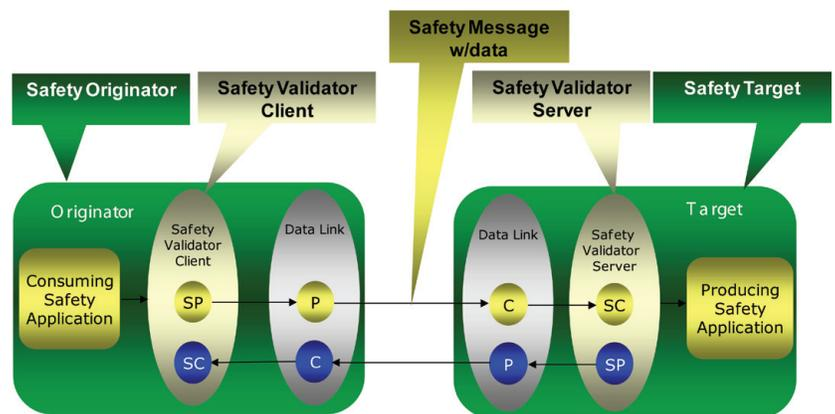

Figure 8
- **Safety Validator Object:** The safety validator object provides the high-integrity run-time communications behavior for safety devices. It executes the safety protocol behavior in the end devices and encapsulates and unencapsulates the safety protocol when it is being transmitted using standard CIP services. The Safety Validator simply ensures that data is transmitted with high-integrity (Figure 8).